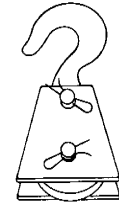

Figure 8
- USE A PULLEY BLOCK FOR HEAVY LOADS. To maximize winch and wire rope life, use a pulley block to double line heavier loads (Figure 8).